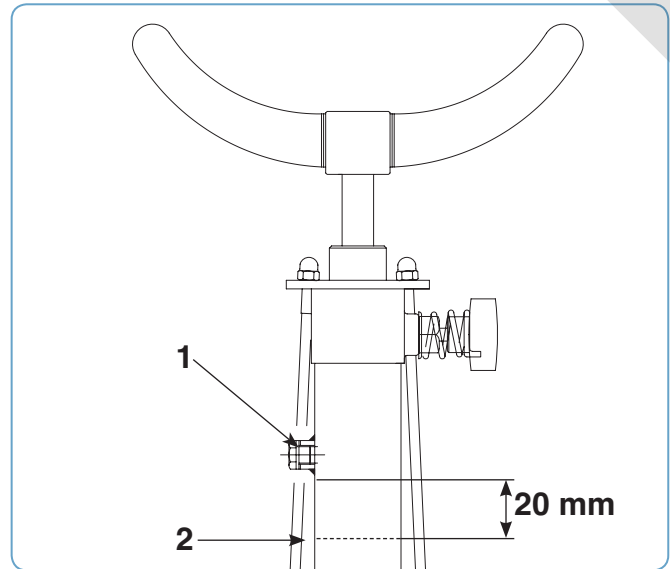

Fig. 7
- Unscrew the pierced lid situated on the tank chamber (1 Fig. 7).
- Refill with clean oil up to the correct level (Fig. 7).
- Remove the oil from the load plug (1 Fig. 7) using a suitable suction pump.
- Insert clean oil until the correct level is reached (Fig. 7).